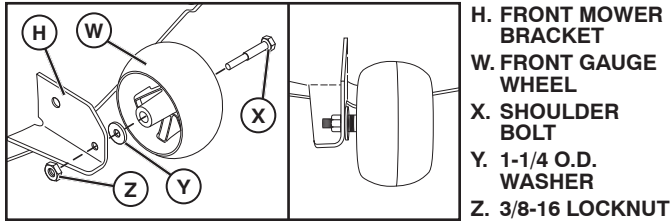

Fig. 5
## 2. ASSEMBLE FRONT GAUGE WHEEL (W) TO FRONT OF MOWER (See Fig. 5)